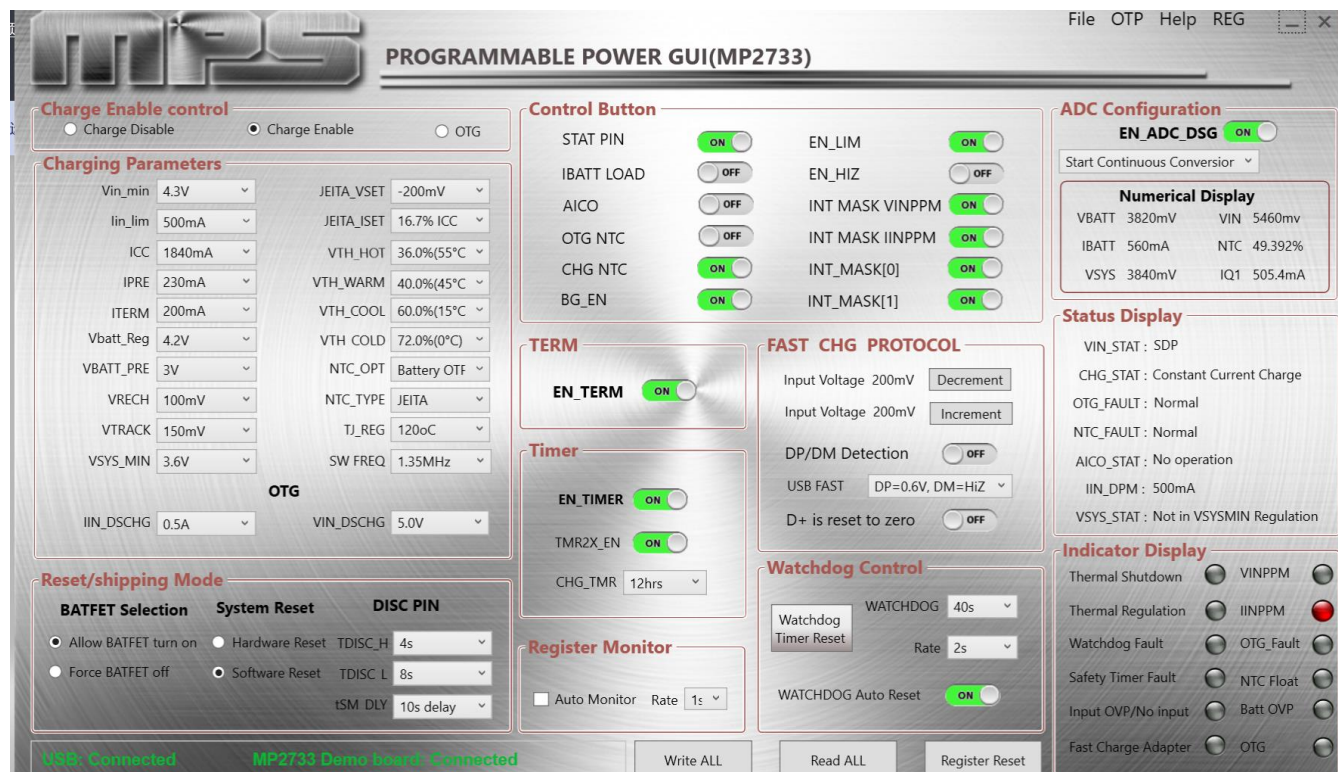

Figure 7: Connected USB and MP2733 Demo Board
- If the connection is successful, both the USB and MP2733 demo board statuses will be listed as “Connected” in green (see Figure 7).
2. Click the “Read All” button to read the I²C register values. The default values should be displayed (see Figure 7).